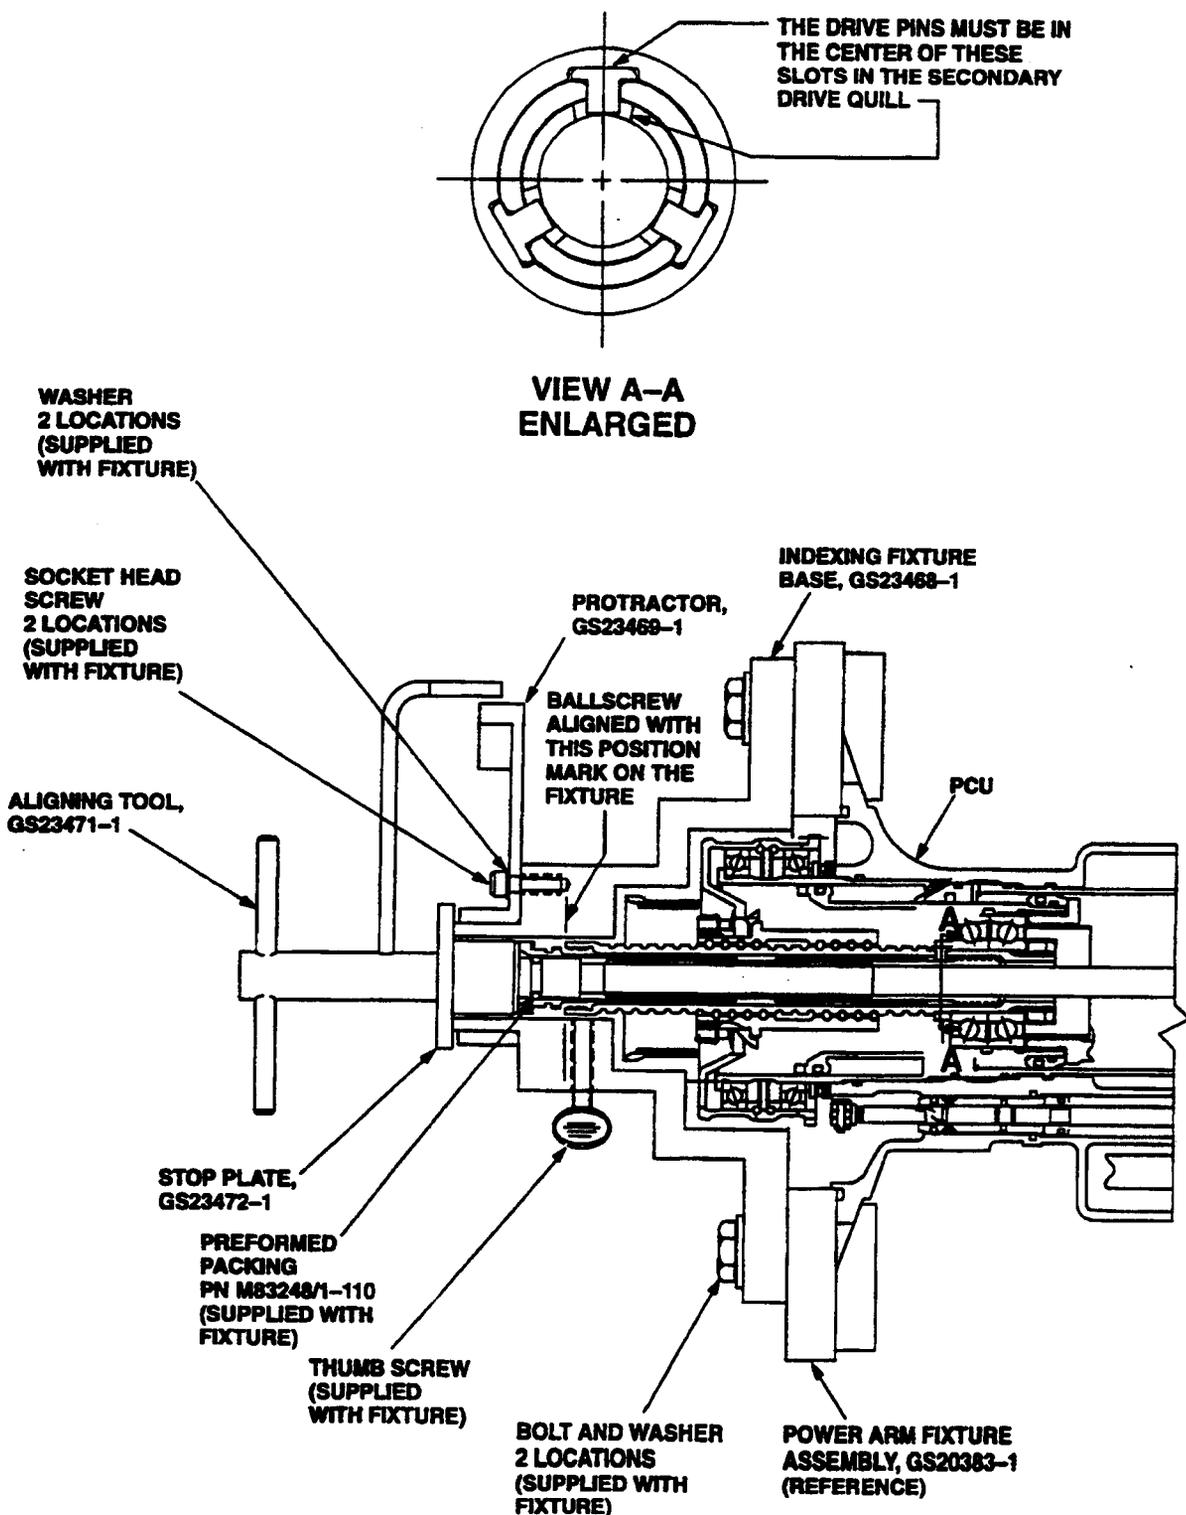

Figure 9. Align the Primary Ballscrew Quill and the Secondary Drive Quill
- (6) Install the servo ballscrew assembly in the PCU. Refer to the Component Maintenance Manual for the instructions on how to do this. Do not install the primary ballscrew quill PN 782284-2 until you are told to in a subsequent step.
- (7) Refer to SB 14RF-9-61-61 (Install the Ballscrew Quill Damper) and do what follows:
- (8) Align the primary ballscrew quill and the secondary drive quill as follows:
- (b) Install the secondary quill indexing fixture base, GS23468-1 (782490-T-19), on the power arm fixture assembly as shown in Figure 9. Attach the base to the power arm with the two bolts and washers that are supplied with the base.
- (d) Turn the servo ballscrew in the necessary direction until the end of the ballscrew is aligned with the position mark on the fixture base, as shown in Figure 9. Then tighten the thumb screw in the fixture base against the ballscrew, as shown in Figure 9. Tighten the thumb screw with your fingers only.
- (e) ) Install preformed packing PN M83248/1-110, which is supplied with the secondary quill indexing fixture base, in the specified groove on the secondary quill indexing fixture aligning tool, GS23471-1 (782490-T-22), as shown in Figure 9.
- (g) Install the secondary quill indexing fixture stop plate, GS23472-1 (782490-T-23) on the aligning tool, as shown in Figure 9.
- (m) Turn the aligning tool clockwise to the angle that you calculated in step (l). This puts the secondary drive quill in a position where the pins are in the center of the slots in the quill and the quill is not engaged with the servo ballscrew. See Section A-A in Figure 9. Look through the bottom of the PCU with a light and make sure that the pins do not touch the sides of the slots in the quill.